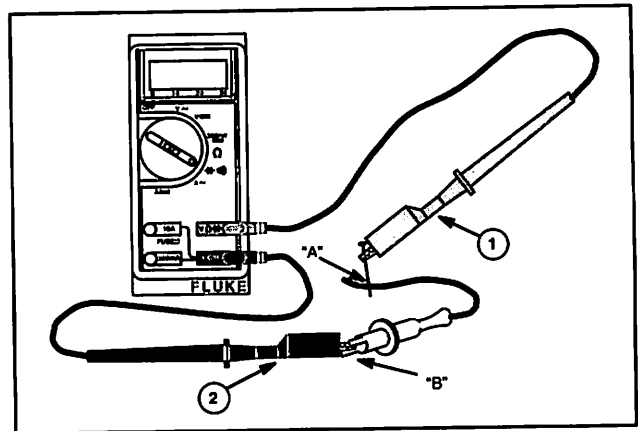
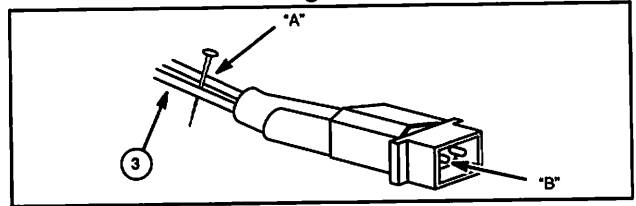

Fig. 25
Fig. 26
1. Insert RED test lead (1) into $V \Omega \rightarrow$ receptacle in meter.
2. Insert BLACK test lead (2) into COM receptacle in meter.
4. Attach RED test lead clip to point "A" and Black test lead clip to point "B," Fig. 25 (DC Only), Fig. 26 (Dual Circuit). (It may be necessary to pierce the red (3) wire with a pin as shown.)